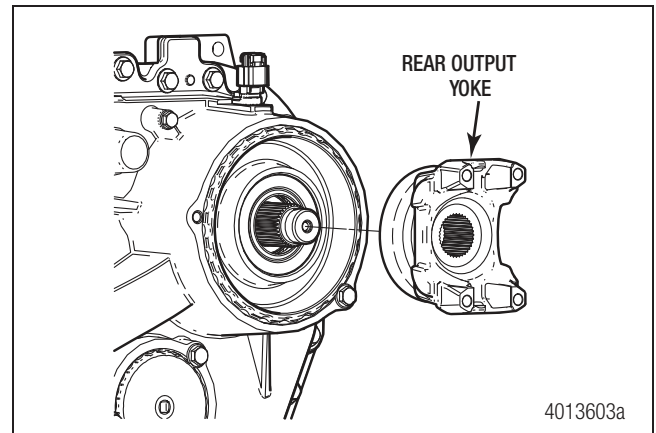

Figure 4.2
3. Use a two-jaw puller, Snap-on part number CG270-2, to remove the yoke from the shaft. Refer to "Tools" on page 60 for tool information. Do not remove the deflector from the yoke unless it is damaged. Figure 4.2.